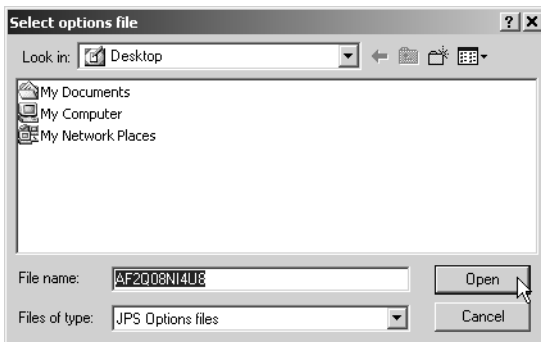

Figure 4-11. Load OAF
3. Navigate to the location of the new Option Authorization File. OAFs have .jpo or .tpo extensions and are unique to each receiver (Figure 4-11).
4. Select the appropriate file and click **Open** (Figure 4-11). The new receiver option loads onto the receiver and the Option Manager table updates.